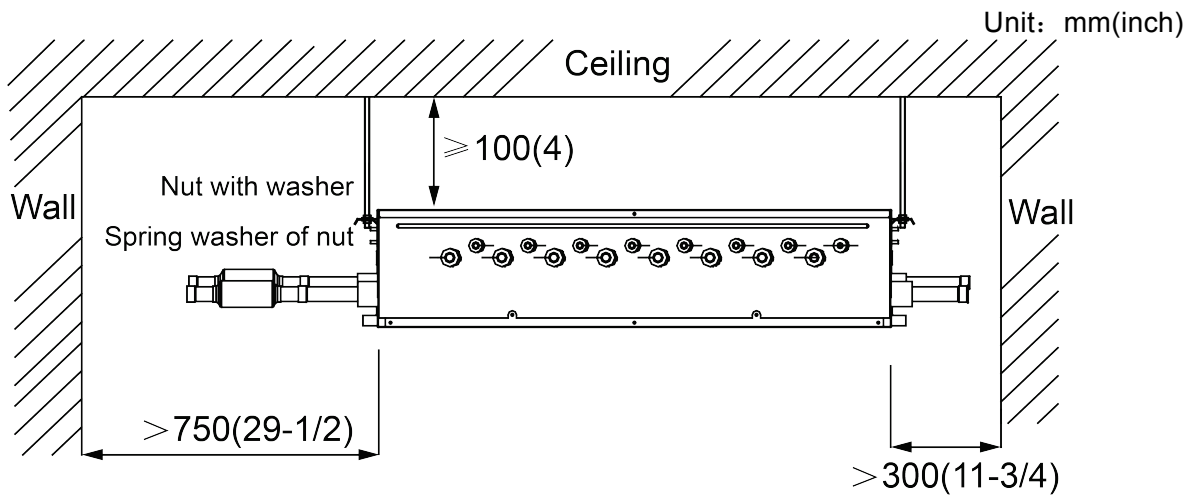

Fig.3.1
- (1) Make sure the hanging parts can hold the weight of unit.
- (2) Water can be drained out from the drainage hose conveniently.
- (3) No obstacles at outlet and inlets. Keep the air ventilation in good condition.
- (4) Connect either left or right side of converter to outdoor unit for piping according to installation space, as shown in the Fig.3.1, the space used for maintenance should be ensured.
- (5) Please keep the unit away from those positions where there's thermal source, inflammable gas and smog.
- (6) The unit is the cassette type (concealed type).
- (7) Indoor unit, outdoor unit, mode exchanger power cord and connection cord should be kept 1m (39-3/8inch) above away from TV and radio for preventing graphic interference and noise. (Even the distance is 1m (39-3/8inch), if there's strong electric wave, there's still noise).